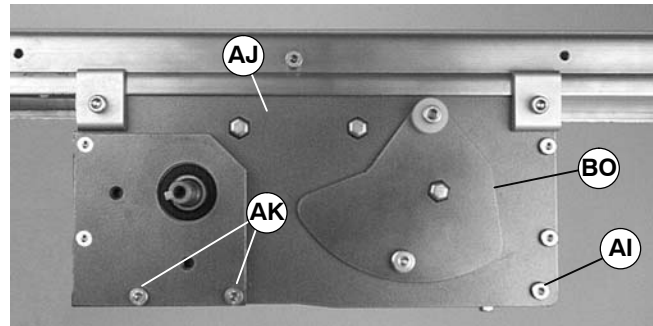
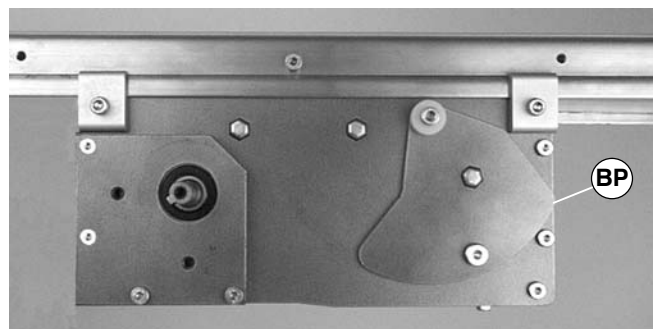

Figure 40
Figure 41
15. Tighten screw (AI of Figures 40) on each side of center drive module (AJ) to 80 in-lb (9 Nm).
16. Install screws (AK of Figure 40) on each side of center drive module (AJ). Tighten screws to 80 in-lb (9 Nm).
NOTE: For a new belt, the tension plate will be in position (BO of Figure 40). When tension plate extends to position (BP of Figure 41), the conveyor belt must be replaced.